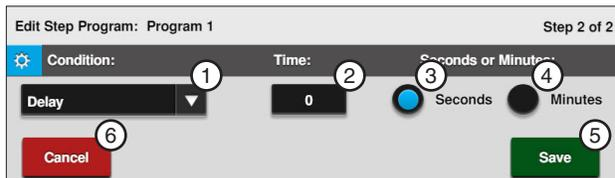

Figure 92-2 1. Condition Drop-Down 2. Delay Time 3. Seconds 4. Minutes 5. Save 6. Cancel
3. The default condition is Delay. If Delay is not selected select the **Choose Condition** drop-down menu and choose **Delay**. Refer to Figure 92-2.